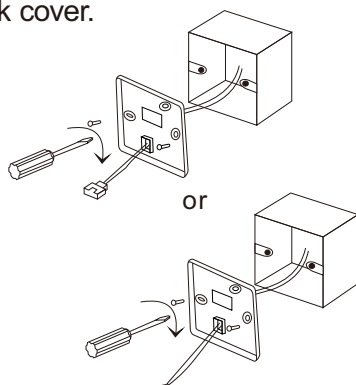

Fig.2
3. As shown in Fig.2, fix $\phi 4 * 20\text{mm}$ screws provided together with the back cover on the box, then pass lead wires through the back cover.